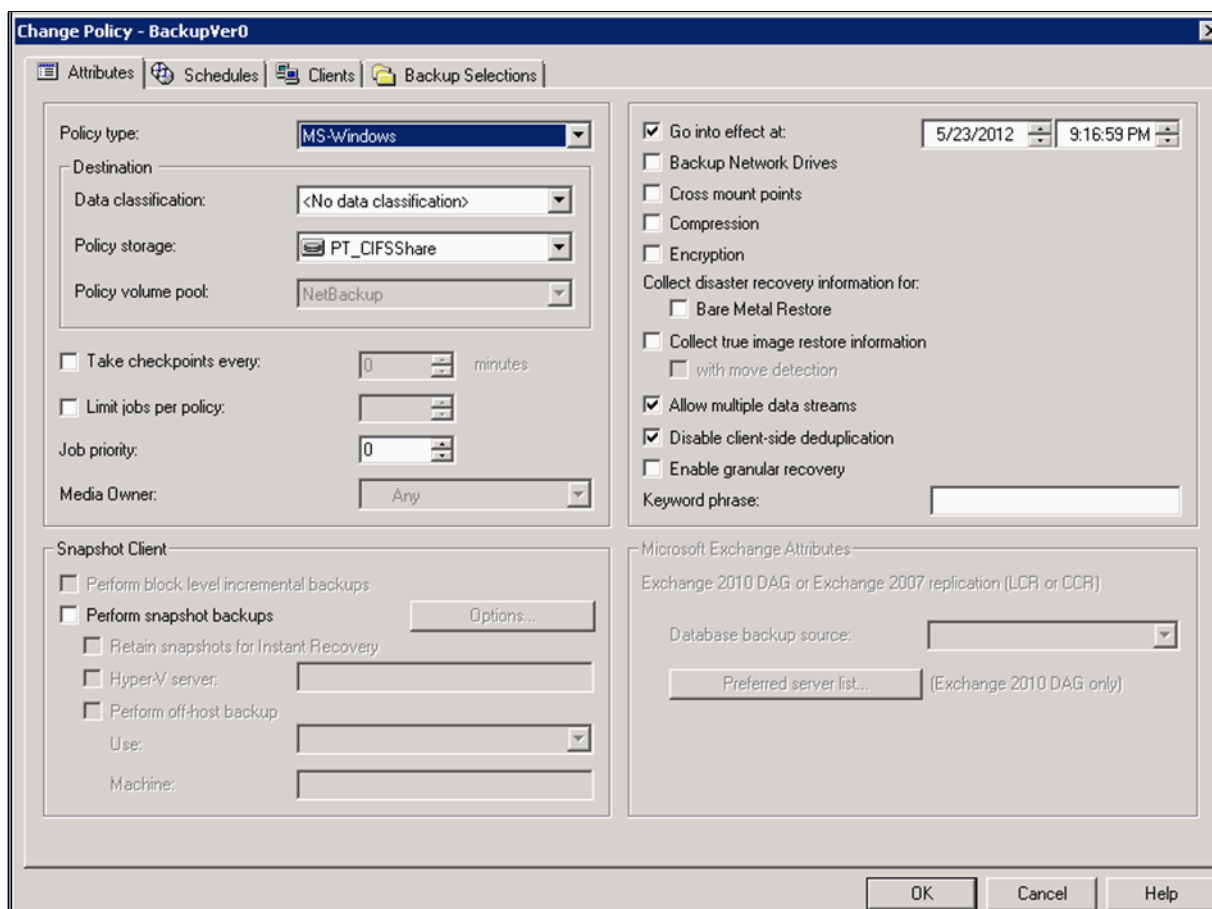

Figure 15-1 Change policy - disable encryption and compression¹
- From the Change Policy window, select the newly created storage unit from the **Policy storage** drop-down menu (Figure 15-1). **Schedules**, **Clients**, and **Backup Selections** can be selected from the corresponding tabs.
Note: Compression, Encryption, and client-side deduplication should be disabled (Figure 15-1 on page 244).